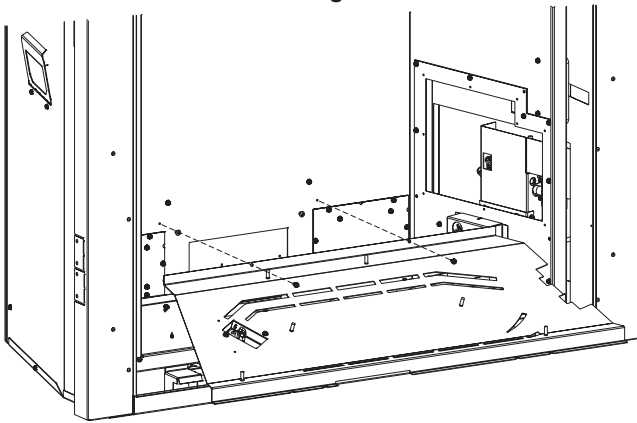

Figure 8
3. Remove burner base. See **Figure 8**.